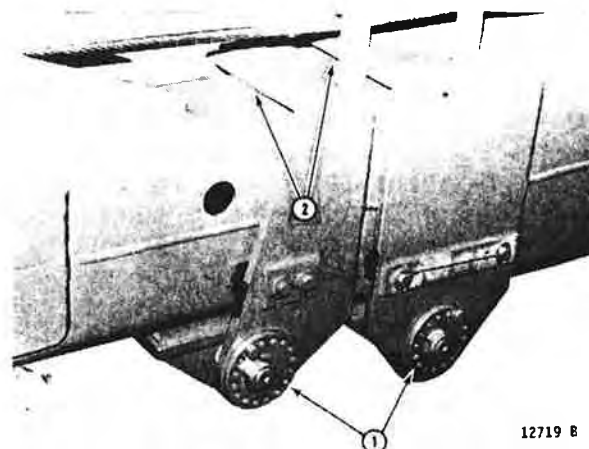

Figure 131
Adjust the wear pad support assemblies (1, Figure 131) against bottom of boom sections until approximately 1/16" to 1/4" (1.59 mm to 6.35 mm) clearance exists between top portion of extensions and base section at point (2).